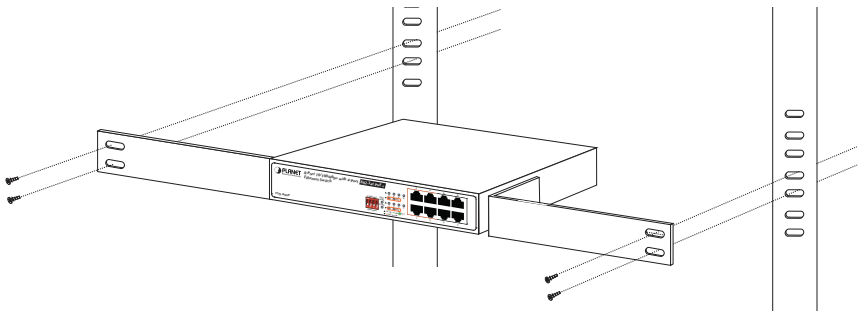

Figure 3-3: Mounting the FSD-804P in a Rack
Step 5: After the brackets are attached to the FSD-804P, use suitable screws to securely attach the brackets to the rack, as shown in Figure 3-3.